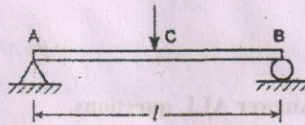

Figure 1
- (b) A beam AB of span 'l' simply supported at ends and carrying a concentrated load W at the centre C as shown in fig.1. Determine the deflection at midspan by using Rayleigh-Ritz method and compare with exact solution. (16)